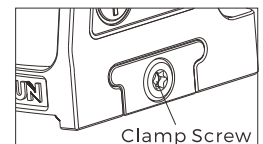

Fig 5-1
3. (Fig5-1) Use a T10 Torx tool (included) to loosen the clamp screw, then attach the HE509T onto the plate so the recoil lug engages the slot on the plate. Apply forward pressure and tighten to 20 inch/lbs.